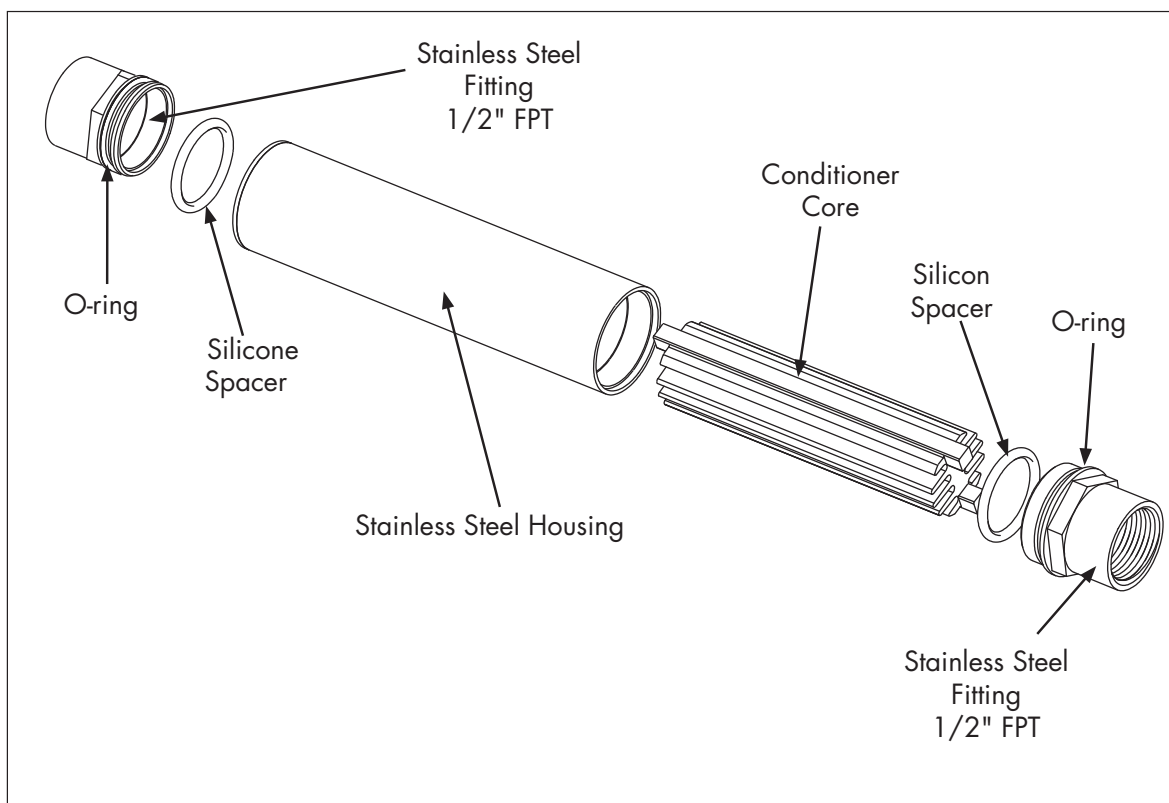

Fig.4
6. Refer to Fig.4, page 7. Disassemble the unit, and remove core from the housing. Handle with care, the core is brittle and will fracture if dropped.
11. Refer to Fig.4 on page 7 to reassemble the unit.